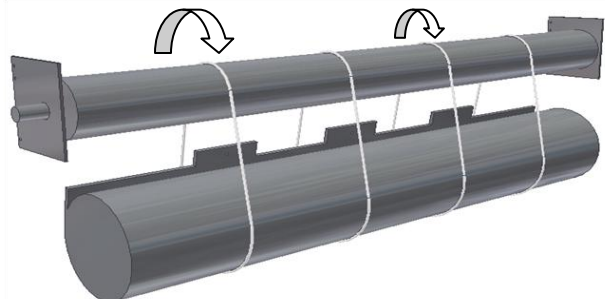

Figure 8.3 - Installing the Curtain
6. Lift the coil until it is just below the shaft. Using appropriately rated ropes or straps, sling the coil from the shaft as shown in **Figure 8.3**. Remove the plastic strapping securing the coil at this point.